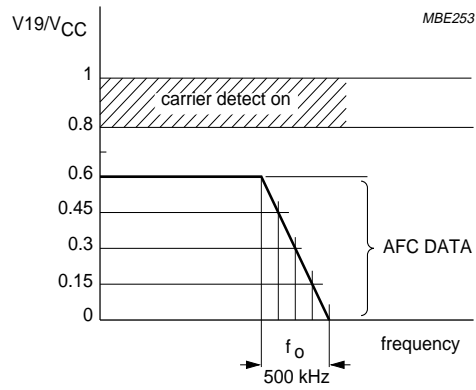

Fig.3 AFC and carrier detector output.
2. This typical value of  $-70\text{ ppm}/^{\circ}\text{C}$  or  $-70 \times 10^{-6}\text{ }^{\circ}\text{C}^{-1}$  can be found in the reference measuring set-up shown in Fig.3. The temperature drift may be adjusted by the temperature coefficient of the external capacitor in the tank circuit.
11. The outputs from the AFC and carrier detector are combined at pin 19 (see Fig.3). During search tuning, when the input frequency is outside the capture range, the combined output (carrier detector function) is at a LOW level (any voltage below  $0.6V_{CC}$ ). When the PLL becomes locked, the voltage at pin 19 rises to a HIGH level ( $V_{19} = 0.8V_{CC}$  to  $V_{CC}$ ). When the input channel is close to the centre frequency,  $V_{19}$  falls to the LOW level. As shown in Fig.3, the voltage at pin 19 is now a function of the centre frequency (AFC function). This information may be read by a microcontroller via the ADC of the satellite frequency synthesizer (TSA5055) and the I2C-bus.